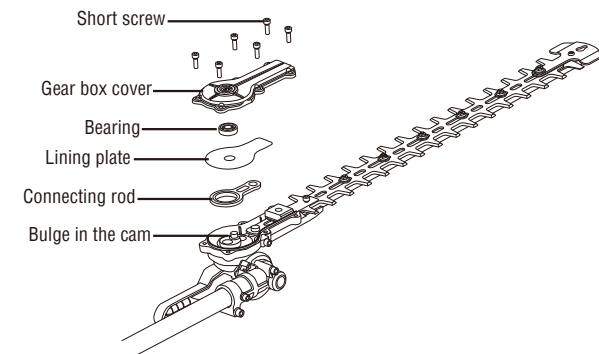

Fig. 6C
5. Align the connecting rod with the rivet in the blade and install the connecting rod into place. (Fig. 6C).
7. Mount the gearbox cover onto the gear case and secure it with 6 short screws (Fig. 6C).